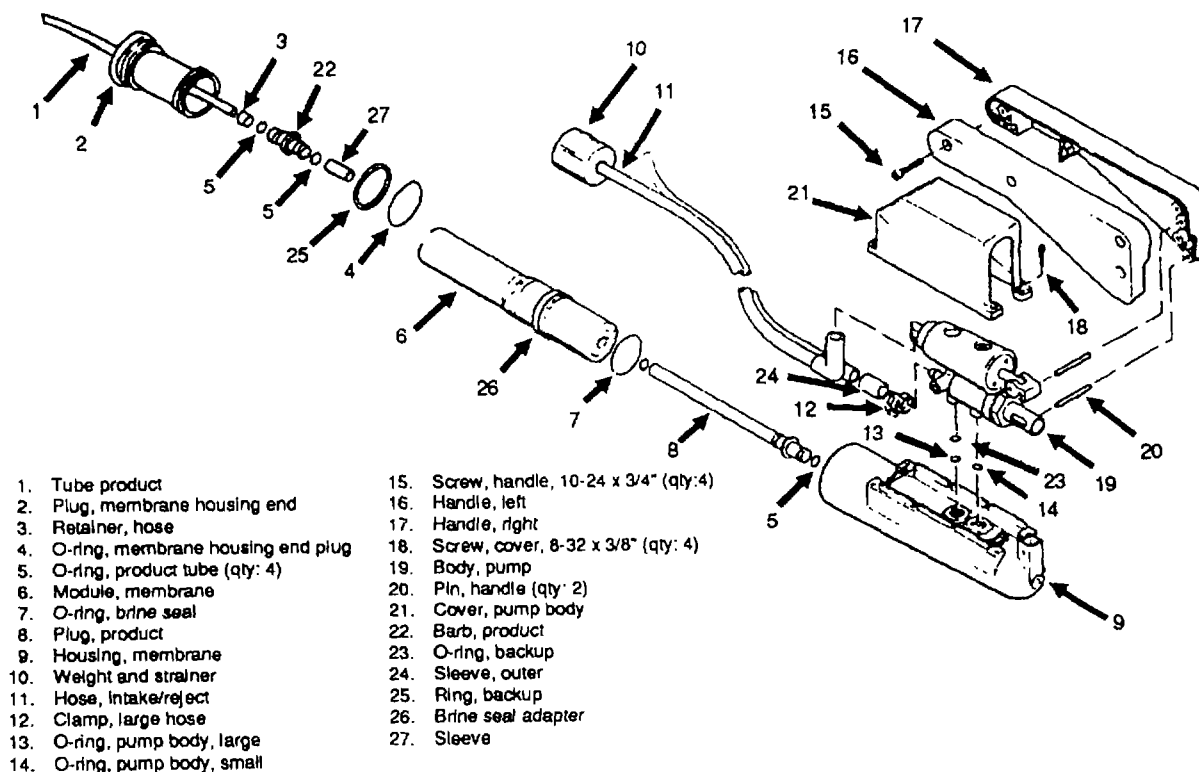
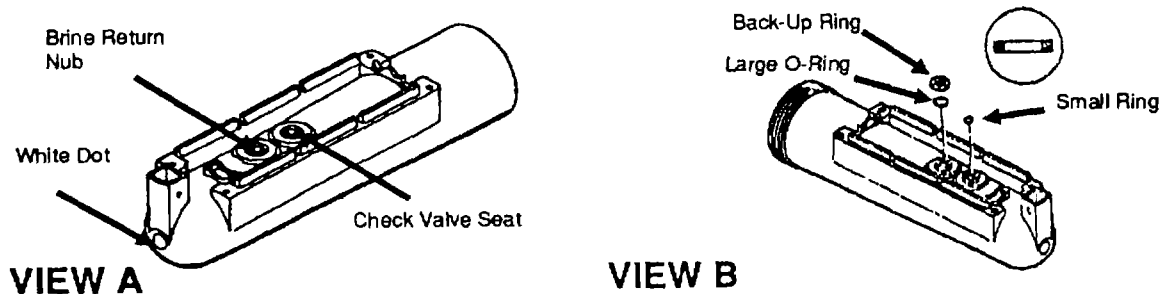
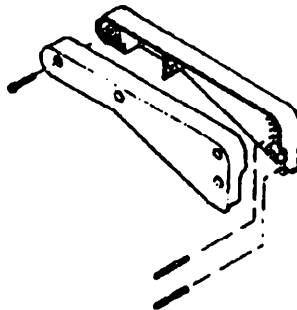

Figure 2-12. Components of the MROD-06
Figure 2-13. Membrane Housing
Figure 2-15. Handle Assembly of the MROD-06
- (b) Unscrew the end plug (2, Figure 2-12) using the MROD Spanner Wrench. Pull it slightly away from the end of the membrane housing (9).
- (c) With a soft, blunt object (wooden/plastic dowel) push the membrane module (6) out of the membrane housing (9) by pushing on the white plastic dot (Figure 2-13, View A) at the opposite end of the housing. Once the seal at the end is free, the membrane module (6) should slide out of the housing.
- (d) Push the product plug (8) out of the center of the membrane module (6) by placing the soft, blunt object into the female end of the membrane, module (6).
- (a) Separate the two handle sections (16, 17) by unscrewing the four socket-head screws (15). The two hinge pins (20) may offer some resistance to pulling the handle apart. Use your fingers to pry apart the handle section in the vicinity of the pins (at the base of the handle).
- (b) Unscrew the four socket-head screws (18) which secure the pump body cover (21) to the membrane housing.
- (d) Immediately place a piece of tape (D100) over the check valve stem to hold the valve parts in place (See Figure 2-13, View B).
- (g) Using needle-nose pliers, undo the plastic hose clamps (12, Figure 2-12) which hold the hoses onto the pump body. Pull the hoses from the barbs.
2. Clean the following parts (See Figure 2-12), using a ware, mild detergent (D45):
- (a) Remove the O-ring (14, Figure 2-12) over the brine return nub (See Figure 2-13) on the membrane housing, and replace it with a new one. The O-ring may have remained in the matching hole on the pump body,
Smear a film of glycerin on the raised surface of the housing which mates with the check valve O-ring (13, Figure 2-12) on the pump body and smear some on the check valve.
- (c) Install the cover using the four screws (18, Figure 2-12). Tighten to 10-11 inch pounds.
- 3. Reassemble the Handle (16 and 17) and Pump (19).
- (a) Insert the handle pins (20, Figure 2-12) into the appropriate holes in one of the handles (16). One of the pins may have remained in the spool when you disassembled unit. See Figure 2-15 for pin placement.
- (b) Slip the handle (17) (with pins installed) over the pump (19) and then slip on the other handle.
- (c) Secure the handle sections together using the four screws (15). Tighten the screws from front to rear to 10-11 inch pounds.
- (a) Put two new O-rings (5) onto the product plug (8), and insert it into the membrane module (6) at the end closest to the brine seal adapter (26).
- (b) Install the O-ring, brine seal (7) onto the brine seal adapter.
- (d) Install O-ring (25) and O-ring (4) onto membrane end plug (2). Place two O-rings (5) onto either side of product hose barb (22).
- (e) Cut silicon hose (1) to four feet in length.
- (f) Take pre-cut hose sleeve (27) and push on one end of product hose (1). Using glue gun with silicon glue, insert gun needle between sleeve (27) and hose (1) and glue 360 degrees around.